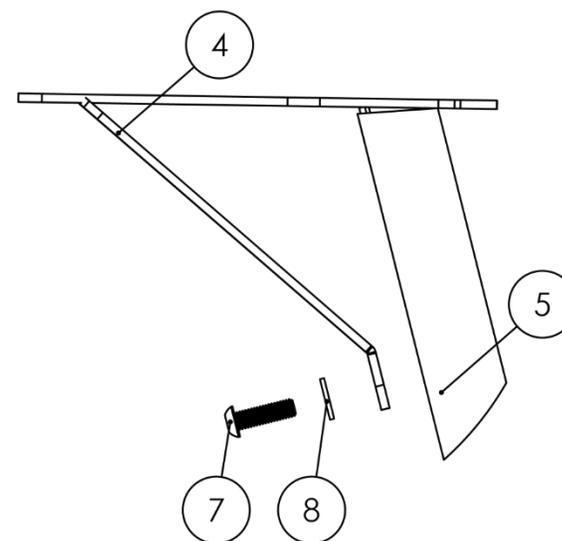

Figure 10
6. **Attach the Crossbar Gussets to the Legs.** Grab the (4) Crossbar Gusset Assemblies (Item No. 4) and notice that their angular projection parallels the inside of the Legs (Item No. 5). As shown in Figure 10, slide this end into the Legs and secure the parts by threading a 1.25" Button Head Cap Screw (Item No. 7) and a Metal Washer (Item No. 8) into the concentric holes.